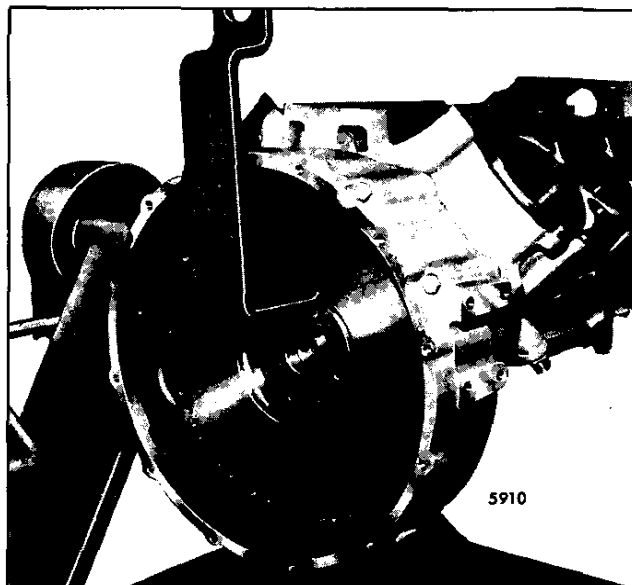

Fig. 1 - Removing Flywheel
2. Use a suitable lifting tool to remove the flywheel (Fig. 1).